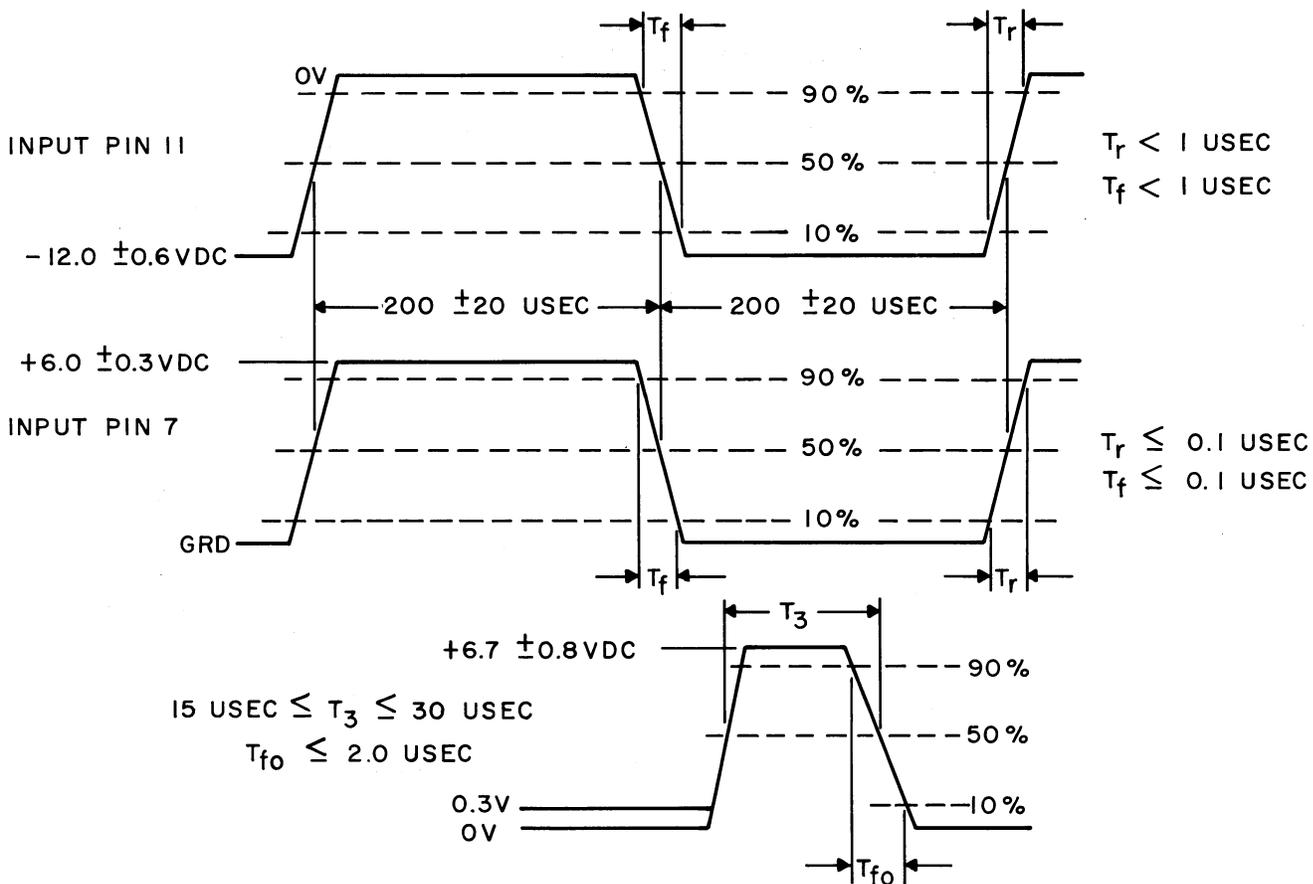

Fig. 44 - (Remote Circuit Card Test)
- (6) The input wave forms at terminals 7 and 11 shall be as specified in Fig. 44.
- (7) The voltage at test point 5, when measured with the voltmeter, should be $+10.0 \pm 1.5$ volts dc.
- (8) Set the scope EXT SYNC TRIGGER SLOPE to the (-) negative position.
- (9) The output wave form shall be as specified in Fig. 44.